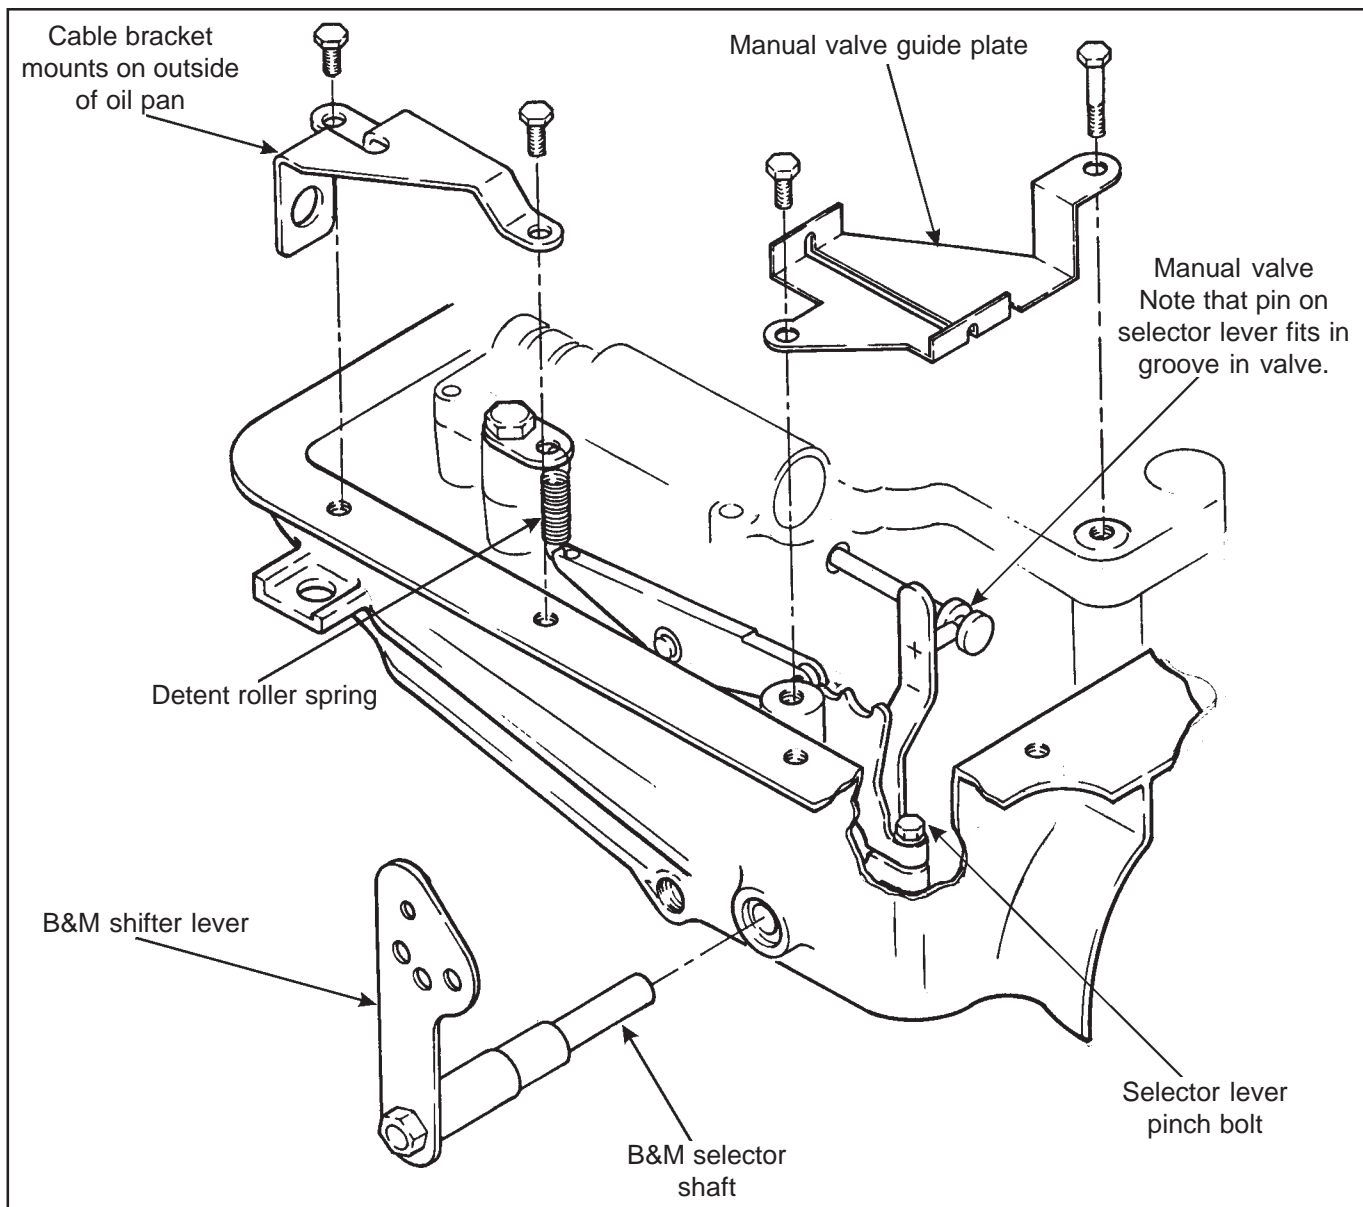

Figure 8
STEP 27. Remove manual valve guide plate by removing two bolts. See figure 8. Unhook and remove detent roller spring. Allow detent roller to pivot out of the way. Not how the pin on the manual valve selector engages the groove in the manual valve.
STEP 33. Install cable bracket in position with the two remaining pan bolts. See figure 8. Install the B&M lever onto the shaft with the lever pointing down. If your cable comes from the front (usually a rear engine car) the lever is installed pointing upwards. You will have to make your own cable bracket for this installation.